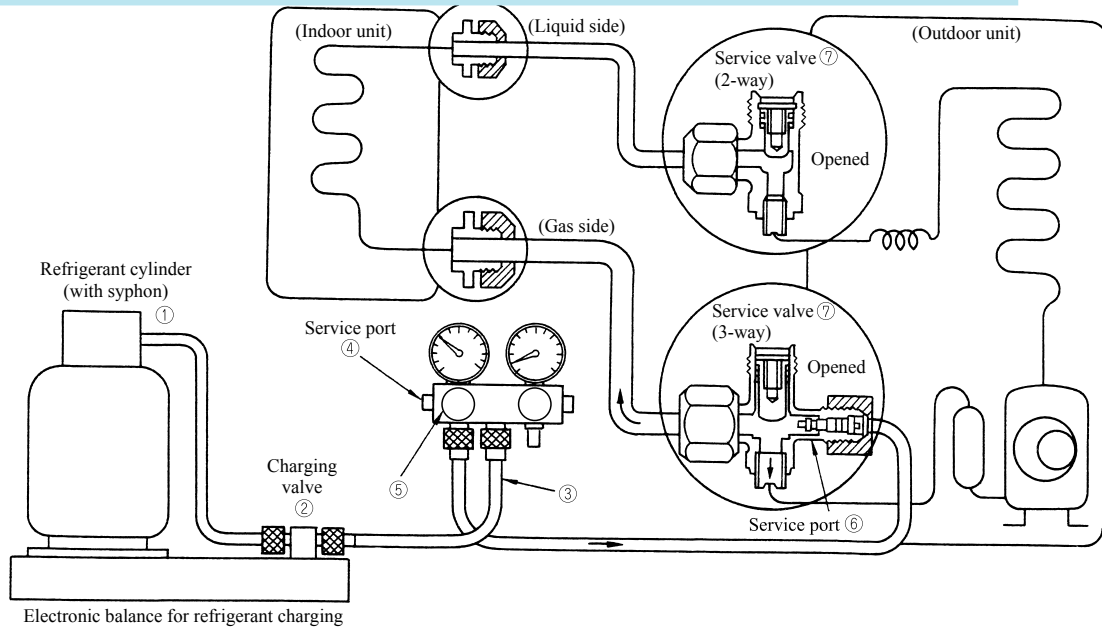

Fig.7 Configuration of additional refrigerant charging
(2) Additional refrigerant charging required for refrigerant piping length longer than standard length (The following steps should be taken following the step e) in (1) above. See Fig. 7)